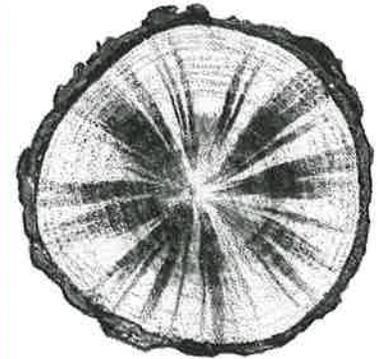

Figure 7-6. This tree was infected with blue stain fungus transmitted by southern pine beetle.
**Damage:** The beetles transmit the blue stain fungus that blocks water transport, kills the tree, and degrades the lumber (Figure 7-6). Southern pine beetles may become so numerous that they kill up to several hundred acres of pines.